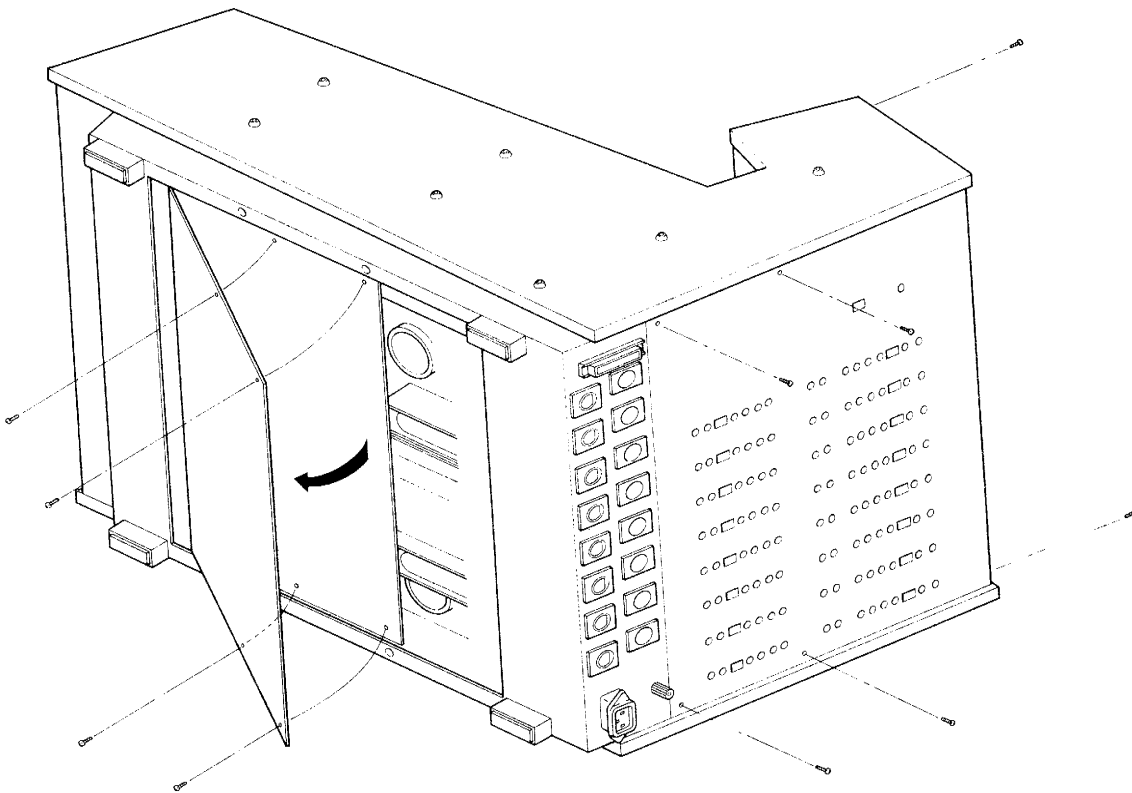

Figure 7-3 Electronics Access
1. Remove six screws on the electronics rear cover as shown in Figure 7-3.